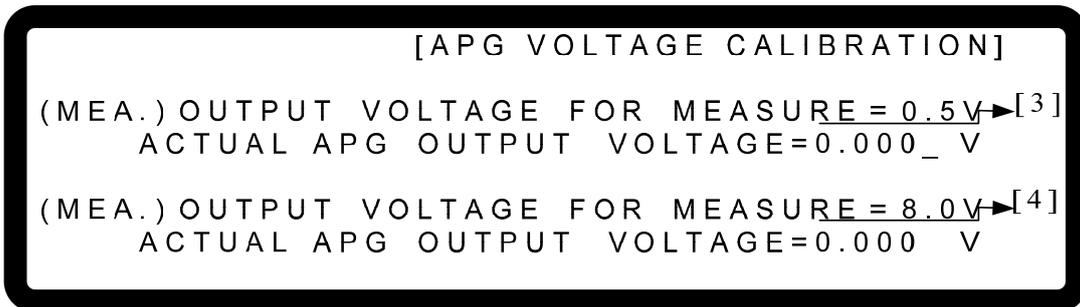

Figure 3-114
6. Press “” again the system will set the output voltage of Pin 6 on the rear panel to 0.5V and the cursor stops at position [3] as Figure 3-114 shows. Input the voltage read by DVM2 to position [3] and press “” to confirm.
7. Press “” again the system will set the output voltage of Pin 6 on the rear panel to 8.0V and the cursor stops at position [4] as Figure 3-114 shows. Input the voltage read by DVM2 to position [4] and press “” to confirm.